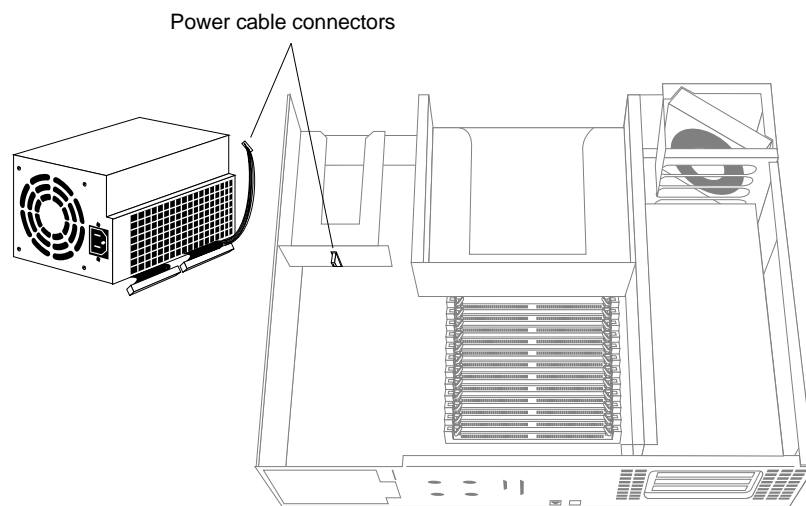

Figure 8-26 Connecting the Power Cable Located Close to the Disk Drives
- Hold the power supply with one hand, and with your other hand connect the free end of the power cable shown in Figure 8-26 to the connector located close to the disk drives.